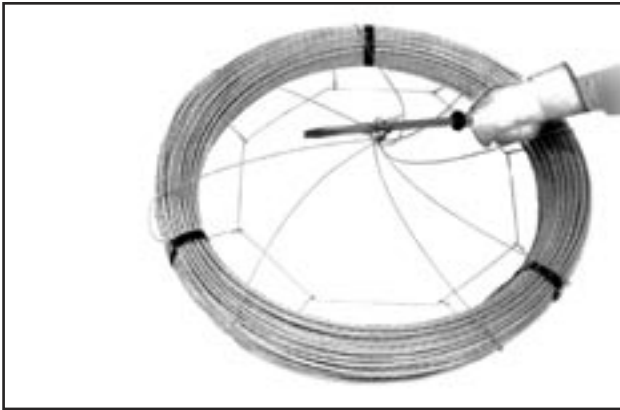

Figure 5 - Insert a tool through each leg and twist legs into a "knot"
1.04 Insert a tool (preferable a long-handled screwdriver) through each of the four legs and twist the legs into a "knot". It is not necessary to tighten down the legs all the way. As long as the legs are firmly knotted the dispenser is secure. (Figure 5)